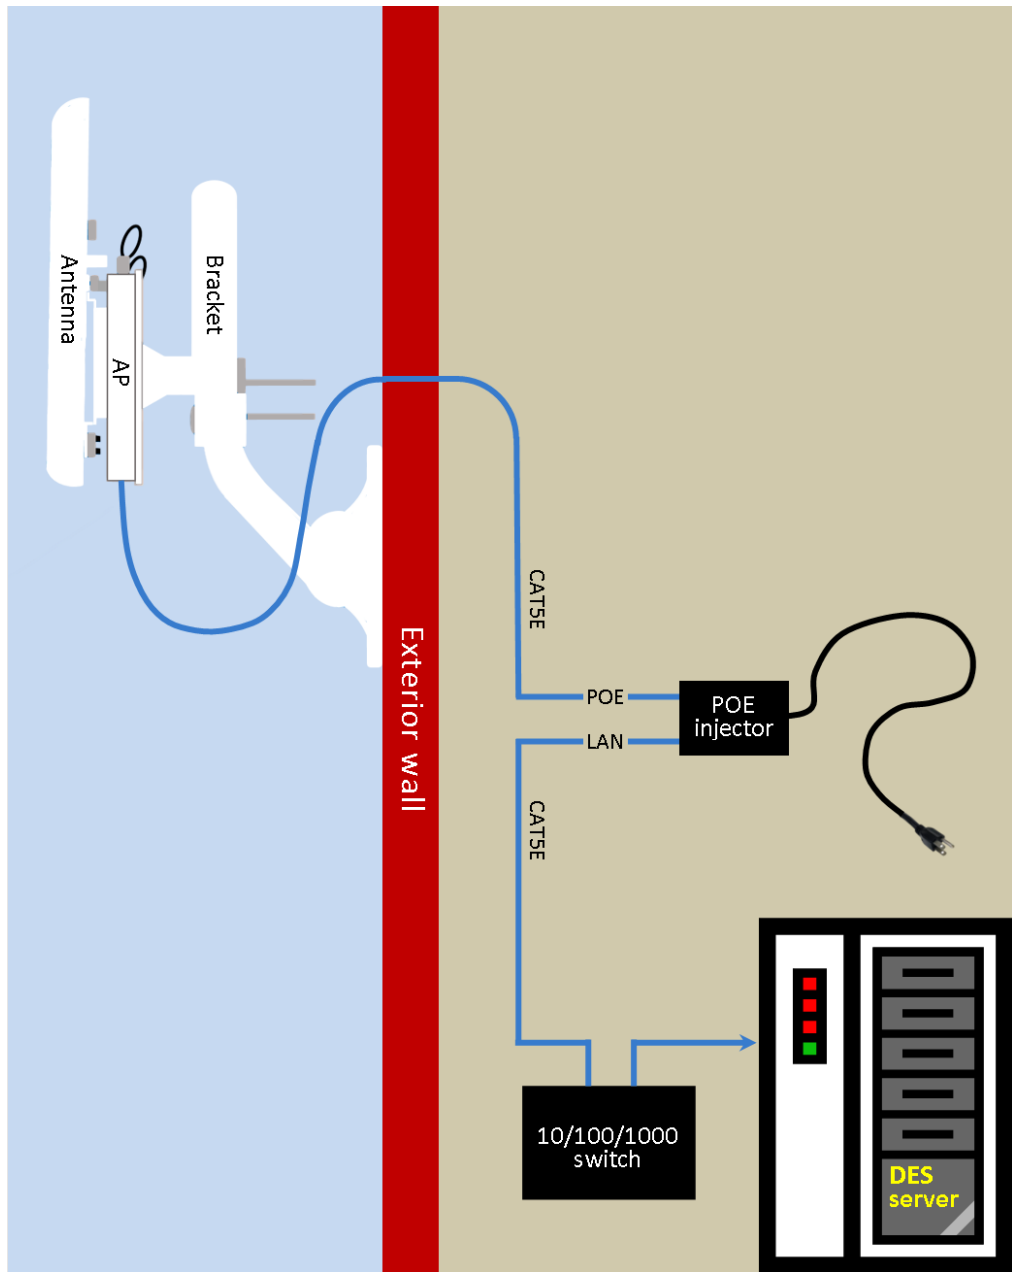

Figure 2: Access Point Configuration 1, with POE injector
- ❑ The supplied **POE injector** can be used to power the device regardless of whether a POE switch is used or not. See Figure 2 on the next page.